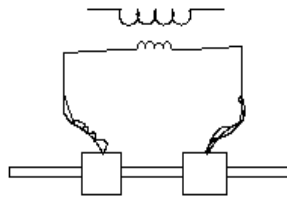

Fig. G1 Butt welding
**Q.5** What are different types of resistance welding? (3)
- (i) **Butt Welding:** This method is used for welding of rods, wires or small pipes; the two ends are pressed together mechanically to form a butt joint as shown in Fig G1